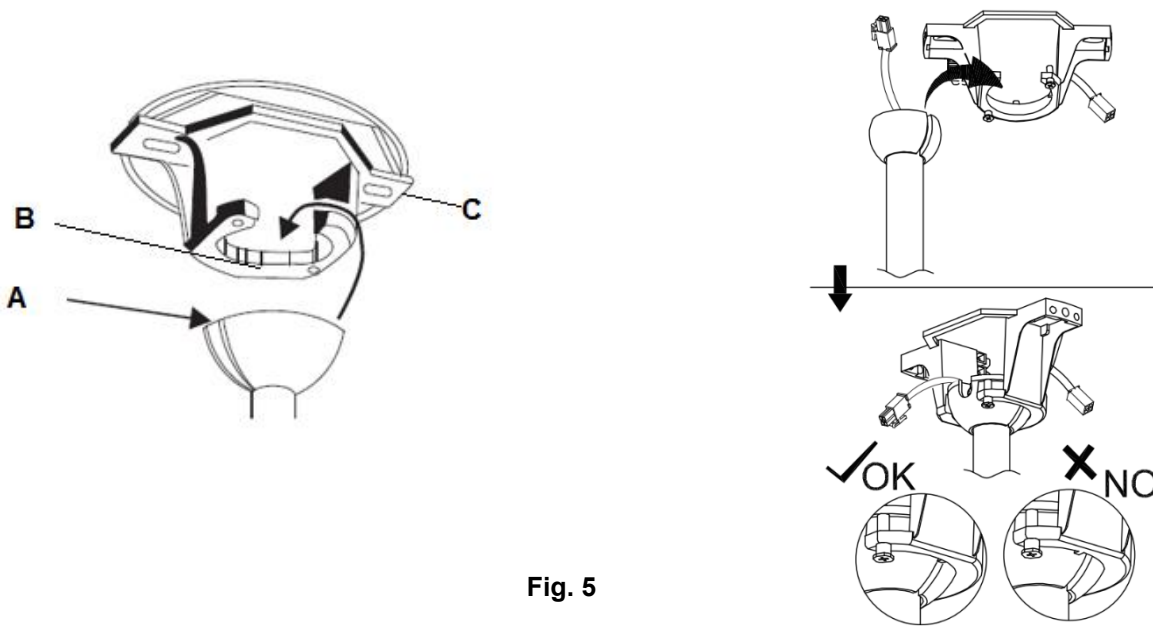

Fig. 5
Lift the fan assembly onto the mounting bracket. Ensure the key slot (A) of the hanger ball is positioned on the key pin (B) of the mounting bracket (C) to prevent the fan from rotating when in operation. (Fig. 5)